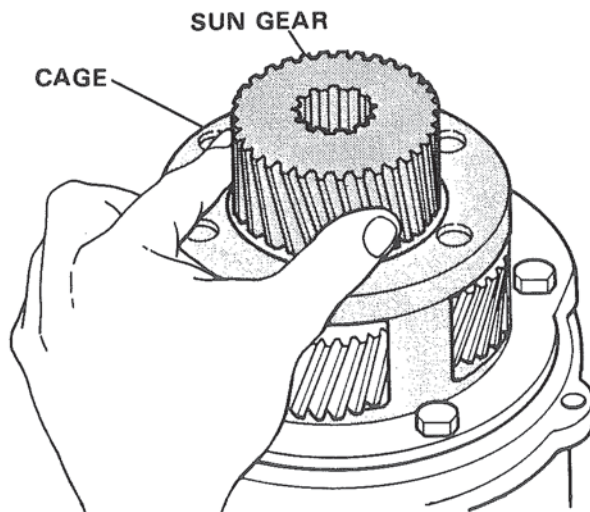

Figure 6. Removing Sun Gear.
2. Remove the six (6) 5/16 - 18 x 3/4 lock bolts and the 5/16 lockwashers which retain pinion cage assembly to reduction unit adapter. Figure 6.